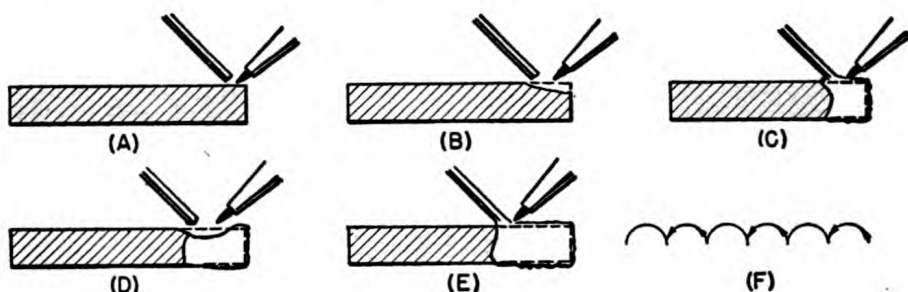

Figure 50.—Proper filler rod motion in welding sheet aluminum.
Aluminum begins to feel soft and elastic just as it starts to melt. The instant that this "feel" indicates that the melting point is approaching dip the filler rod tip into the puddle and permit it to melt with the metal. In figure 50 you can see a diagram of the dipping motion your filler rod should take as you heat the metal.
In (A) of figure 50, the metal is being heated. In (B) the base metal is starting to melt. In (C) the filler rod is dipped into the molten puddle and allowed to melt with it. In (D) the filler rod is being lifted while the torch flame is moved for-